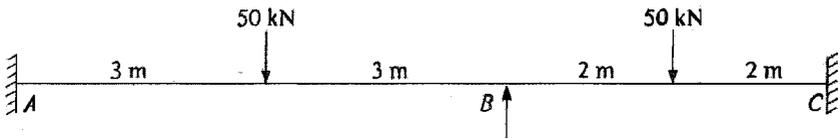

Fig. 4.1.
- (a) Fig. 4.1 shows a two span continuous beam of uniform section having a plastic moment M_p equal to 60 kNm. Determine the collapse mechanism and the load factor. The given loads are working loads.